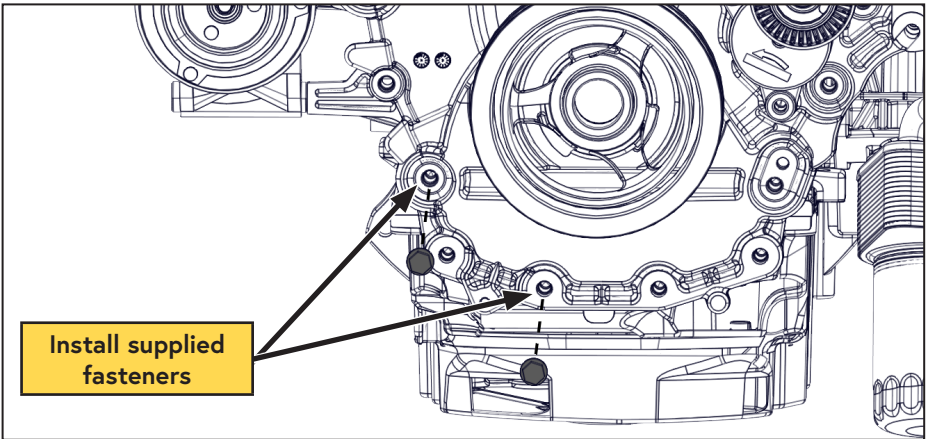

Figure 16 — Replace bracket fasteners
- Apply Loctite 242 (blue) to the 2 supplied M8 × 1.25 × 30 mm fasteners and install them in the location shown. Torque the fasteners to specification (Figure 16).